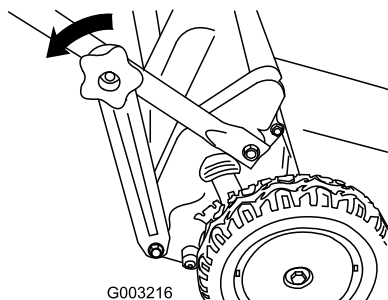

Figure 40
1. Remove the lower handle knobs (Figure 40).
2. Detach the lower handle brackets from the lower end of both handle sides (Figure 40).